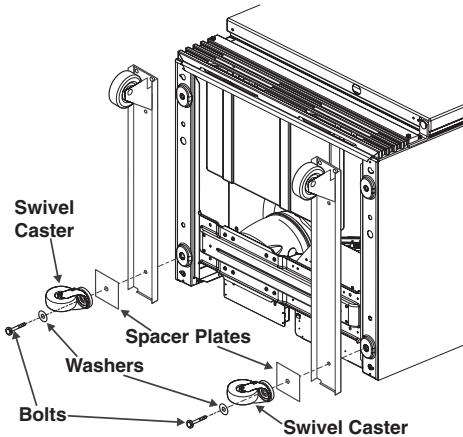

Fig. 5
- Tighten the bolt securely using a $\frac{1}{2}$ inch end wrench or socket wrench (see Fig. 5).